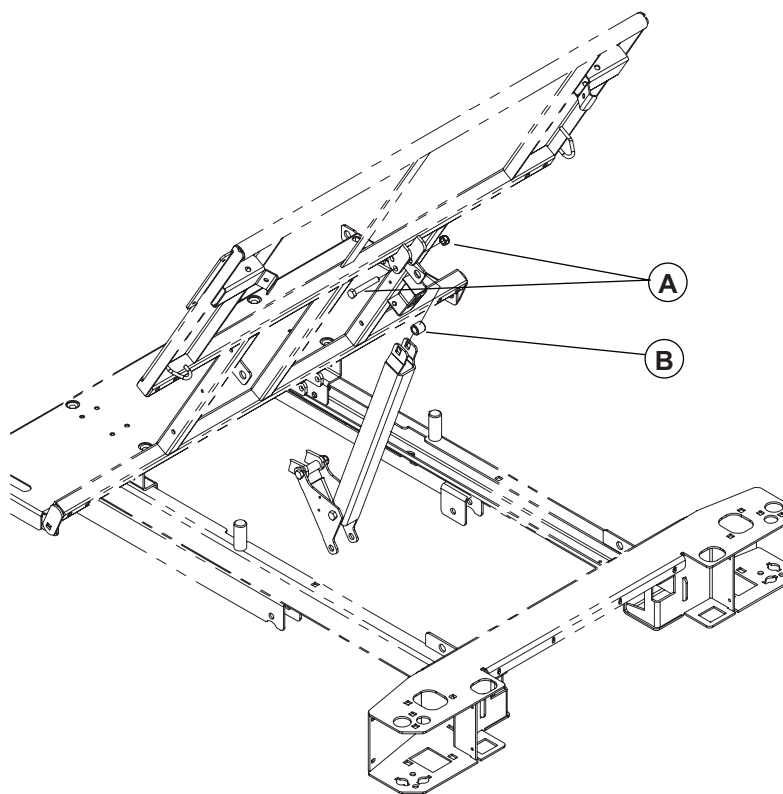

Figure 7
17. Using two 1/2" combination wrenches, remove the locknut and bolt (A, Figure 7) holding the lever to the head section. Lay the lever down on the frame. Keep the spacer (B, Figure 7).
19. Using a 1/2" combination wrench, remove the two locknuts, two shoulder spacers and two bolts (F) holding the head section to the seat section.